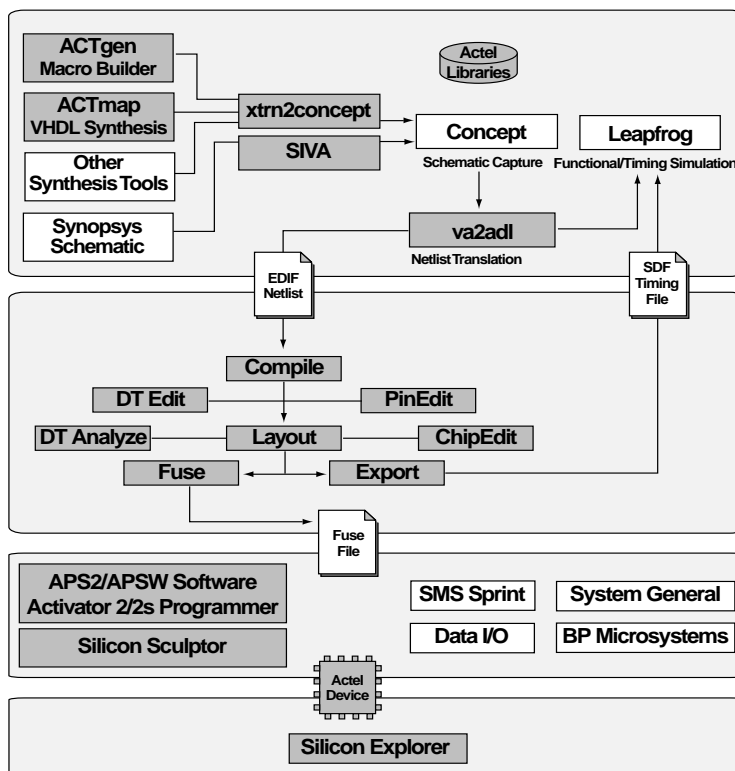

Figure 2-2. Concept/Leapfrog Design Flow
Figure 2-2 shows the schematic-based design flow for an Actel FPGA using Designer software and Concept schematic capture software.1
1. Actel-specific utilities/tools are denoted by the grey boxes in Figure 2-2.